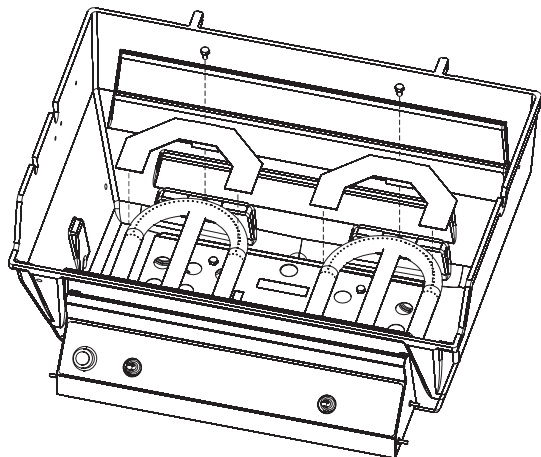

Figure 17
2. Remove burners and burner shields from grill (one (1) 1/4-20 x 3/4 phillips screw for each burner). See Figure 17.